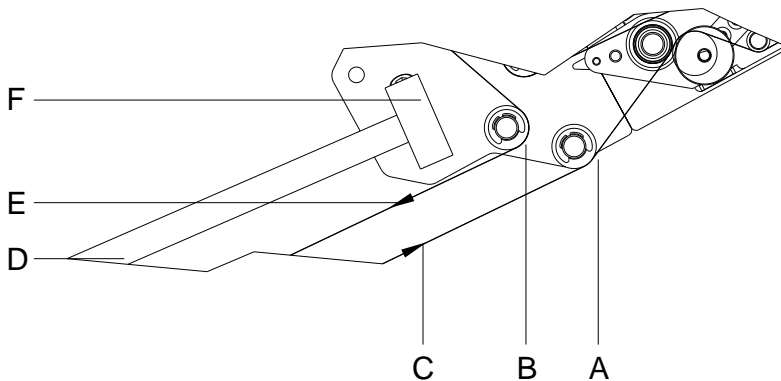

Figure 43
For the limit case illustrated below, the label material (E) and the backing paper (C) touch themselves around the return pulley (B). In order to avoid a permanent contact, the insertion scheme should be changed according to Figure 43. For this purpose, guide the backing paper (C) under the return pulley (A).